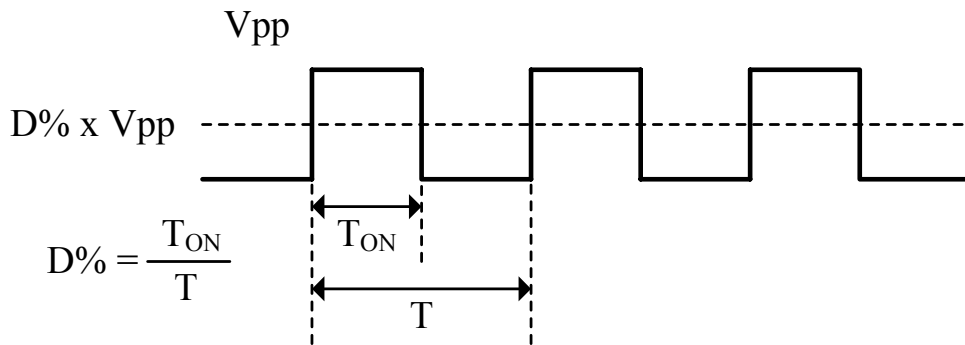

Fig 2 : Typical application circuit for AT5560 (SC70 package).
- As Fig 2 shows, in order to get the suitable and stable input voltage level, V_{IN} , the PWM signal must be low-pass filtered by R1, R2, and C1. The values of R1, R2, and C1 will determine -3dB frequency and DC value of V_{IN} . The -3dB frequency can be got by